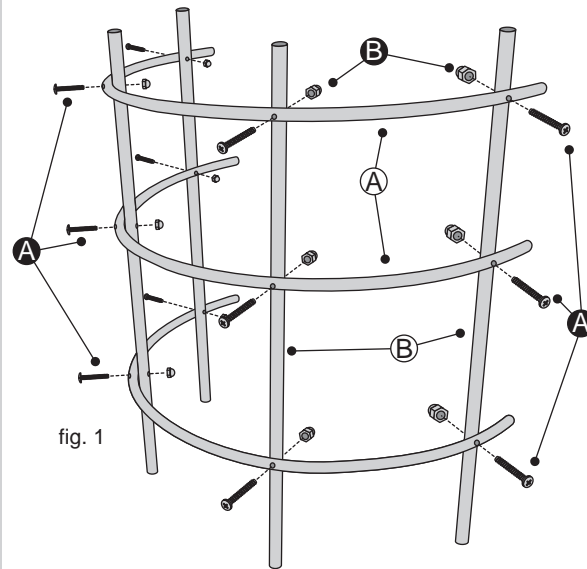

fig. 1
1. Use Screws **A** and Nuts **B** to fix Curved Tubes **A** onto Tubes **B**. See fig. 1.